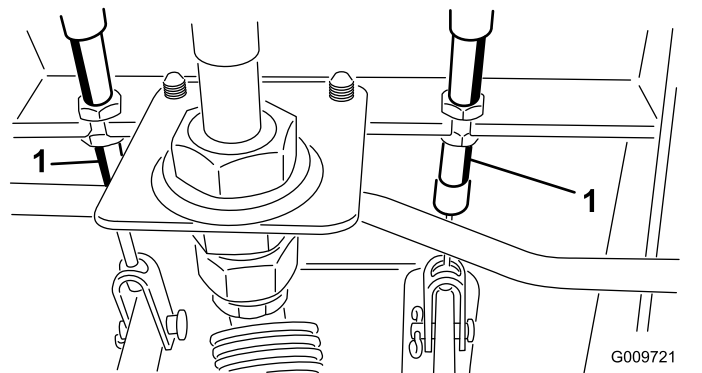

Figure 80
- A. Loosen the front nut on the threaded end of the brake cable (Figure 80).